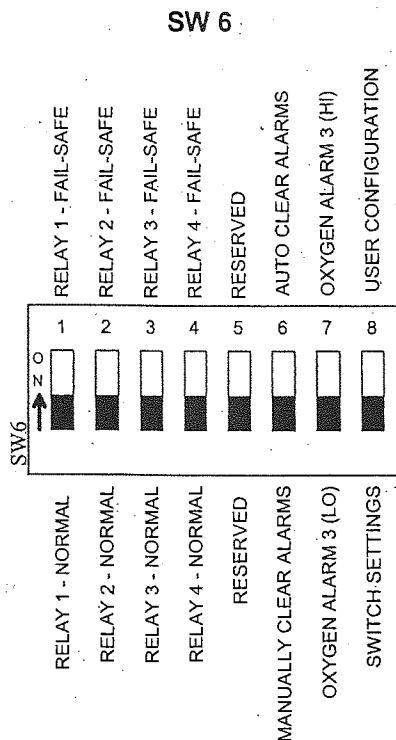

FIGURE 4.0
Setting the alarms for fail-safe operation and automatic alarm clearing can be accomplished by using an on board switch bank (SW6) located in the upper right quadrant of the printed circuit board (refer to FIGURE 4.0). This switch bank has eight (8) individual switches for configuring the Series 3000.
The Series 3000 Trace Oxygen Analyzer will "boot" up based on the settings of oxygen alarm switches #1 through #4. Switches #1 through #4 control the fail-safe operation for each of the four alarm relays. Each switch must be turned "ON" to be fail-safe (refer to FIGURE 4.0). In the fail-safe mode, upon an alarm condition, the corresponding relay will change state (either open or closed) upon loss of AC power. The factory settings for switches #1 through #4 is "OFF" (normal operation or non fail-safe).